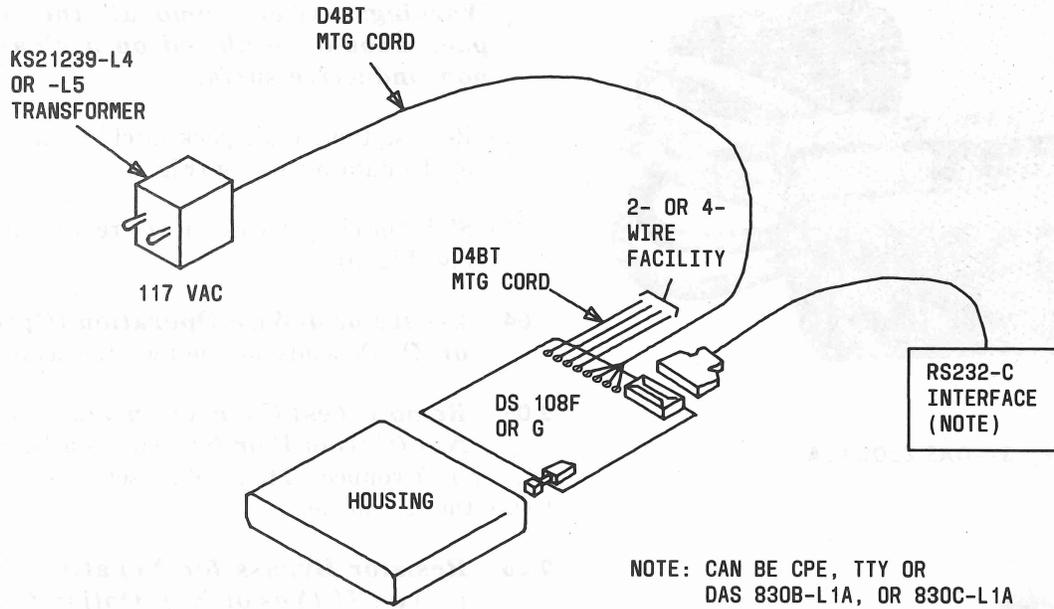

Fig. 5—Typical DS 108F or G Arrangement
1.01 This section contains information concerning the installation and connection of data sets (DSs) 108F and 108G alone (Fig. 1) and with data auxiliary sets (DASs) 830B-L1A, 830C-L1A, and 830D-L1 (Fig. 2, 3, and 4). A typical arrangement is shown in Fig. 5.